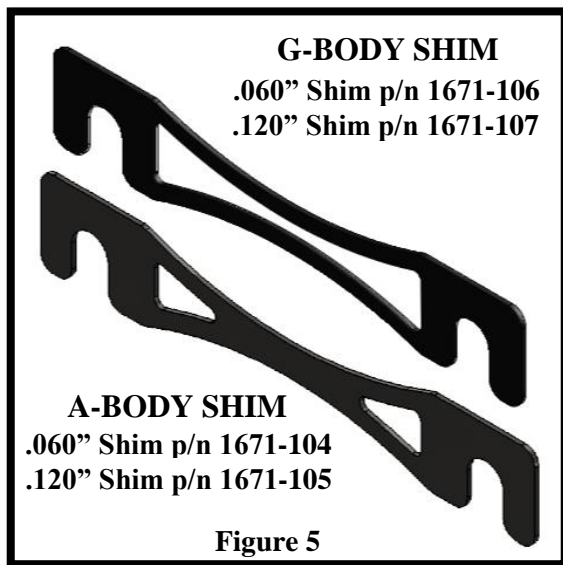
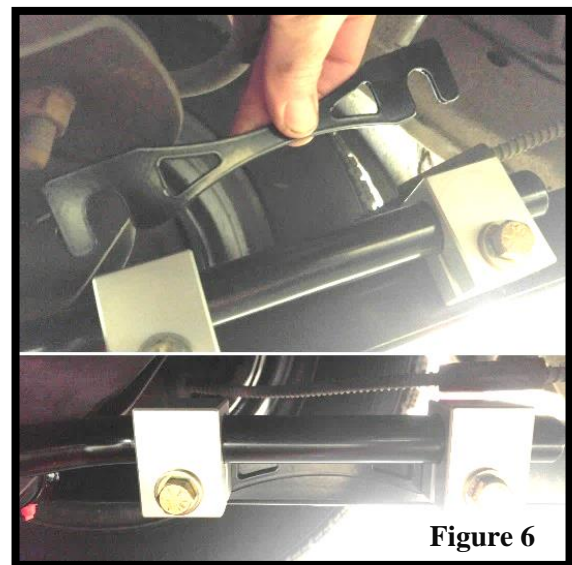

Figure 5
Figure 6
7. Due to variances from vehicle to vehicle your sway bar will include two thicker (.120") shims and two thinner (.060") shims. (**Figure 5**) Install one thick shim on each side between mounting blocks and trailing arm. If necessary, use the remaining thin shims to take up any gap between blocks and trailing arms. (**Figure 6**) **DO NOT USE THE MOUNTING BOLTS TO DRAW THE SWAY BAR IN TO THE ARM.**